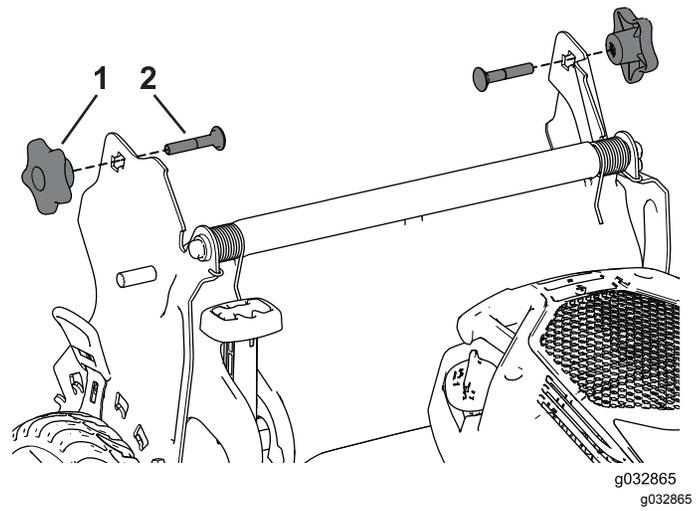

Figure 21
3. Insert the carriage bolt (with the bolt head toward the inside) through the handle bracket and the upper hole in the handle end. Ensure that the square edges of each carriage bolt fits into the upper or lower square hole in its related handle bracket (Figure 21).